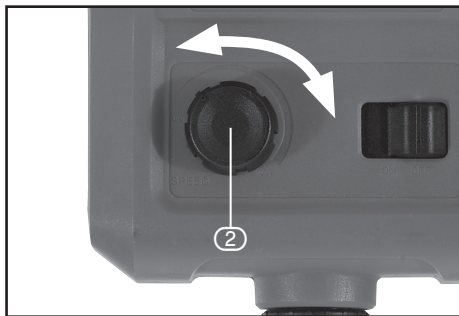

FIG.8
9.6 SELECTING THE RIGHT SPEED – FIG.8
- Use the speed control dial (2) to set the best speed for the job. When the dial is set to the maximum setting, approximately 34,000 RPM is achieved.